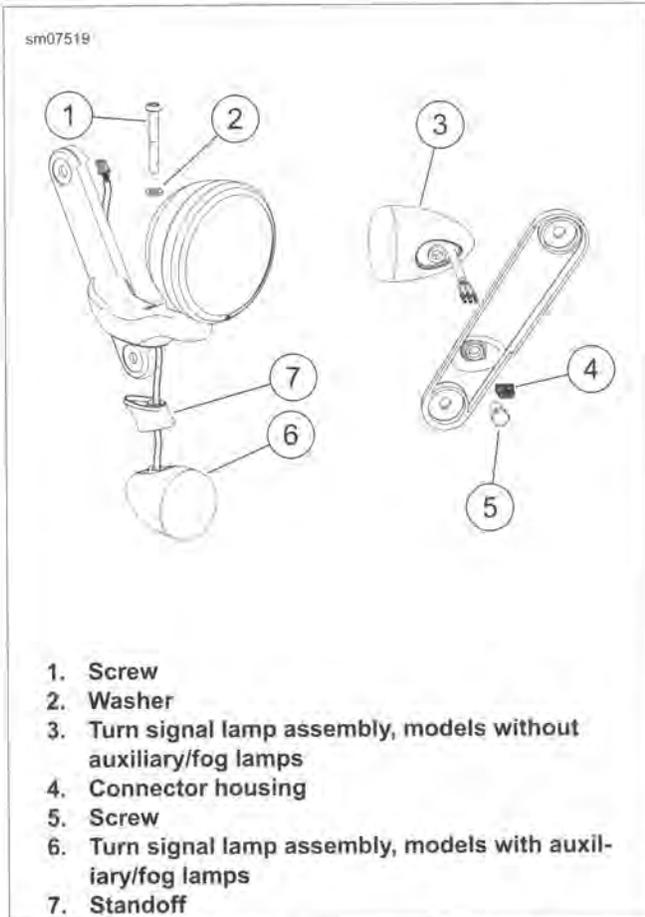

Figure 7-37. Front Turn Signal Lamp (Fairing Models)
- See Figure 7-37. Remove terminals from connector housing (4). See A.17 JAE MX19 SEALED CONNECTORS.
2. See Figure 7-37. Install lamp on mounting bracket. Tighten to: